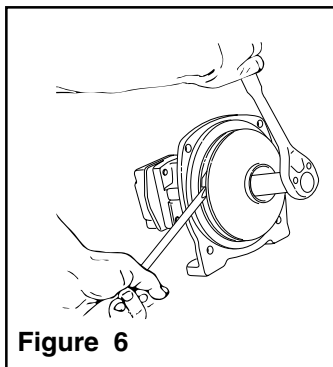

Figure 6
- To remove the Impeller Nut, insert a large screwdriver or file (at least 10" [254 mm] long) into Impeller Vanes to prevent Impeller from turning when loosening nut. Use a 5/8" socket wrench to remove the Impeller Nut by turning it counterclockwise (See Figure 6). *[Use 7/8" deep socket wrench to remove Plastic Seal Nut, then 9/16" deep socket to remove Metal Jam Nut and Washer.]*